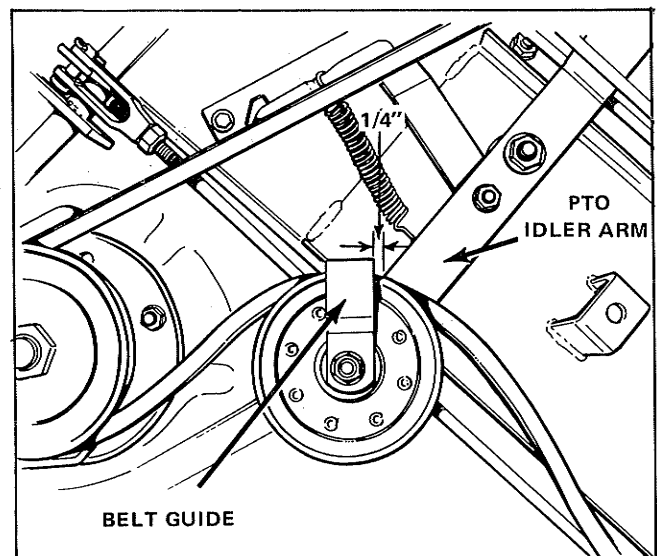

Figure 26. 36" Mower Belt Replacement
2. Loosen the belt guide from the idler pulley on the PTO Idler Arm (see figure 26).
4. Place new belt on arbor pulleys and idler pulley, replacing belt stop on idler pulley. Before tightening nut on idler pulley belt guide, position the belt guide as shown in figure 26, so that it is 1/4 inch (6 mm) behind the idler arm when viewed from above.